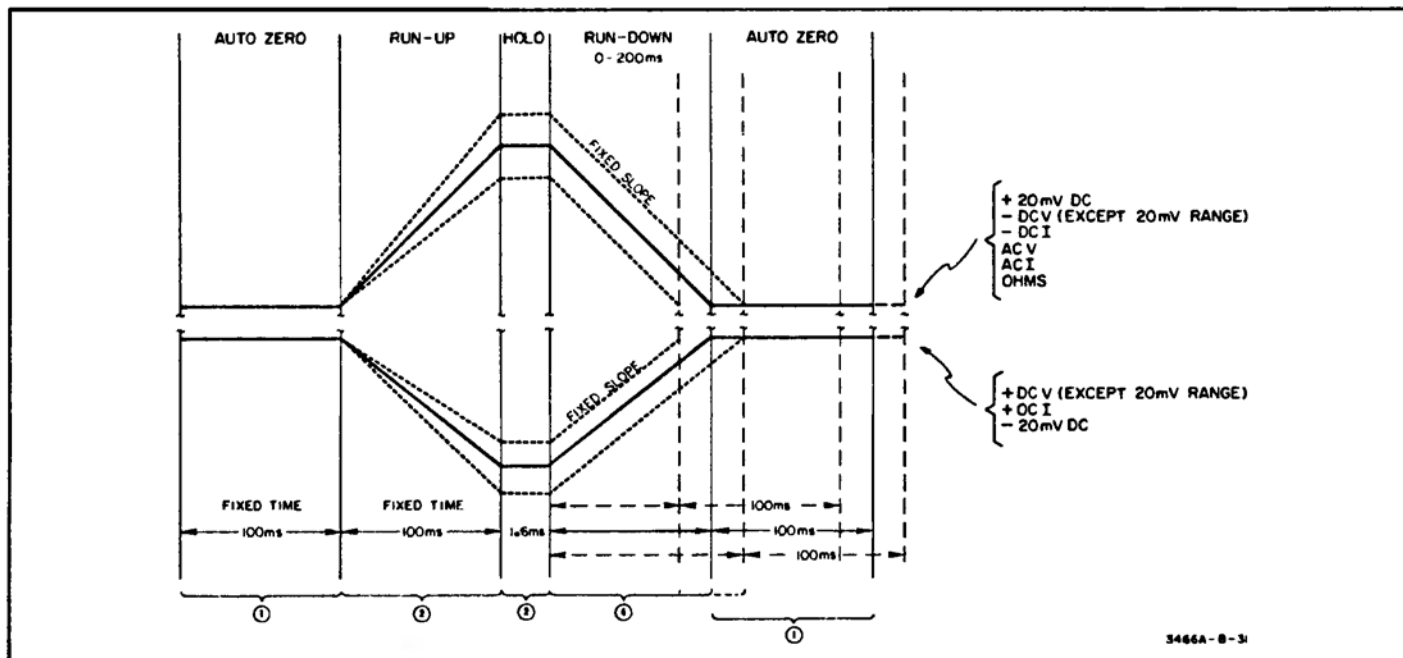

Figure 8-14. Integrator Output
8-61. There are four basic conditions (① ② ③ ④) for a complete measurement cycle as shown in Figure 8-14. These conditions exist for each of the seven Multimeter functions.
8-63. At the beginning of run-up ② a dc voltage proportional to the Multimeter input is applied across one of the run-up resistors (depending on the Multimeter function selected). This run-up voltage is integrated across C_{402} . The polarity of the Integrator output is opposite to the run-up voltage polarity. The run-up voltage polarity is dependent upon the Multimeter function and range selected. Figure 8-14 shows the Integrator output for three different input levels and the polarity for different functions and ranges.